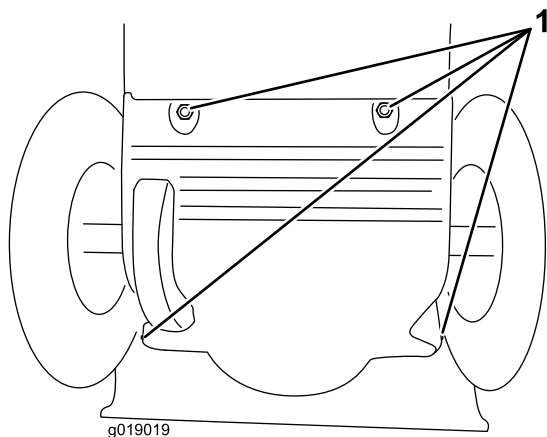

Figure 43
3. Remove the lower cover by removing the 4 screws securing it to the frame (Figure 43).